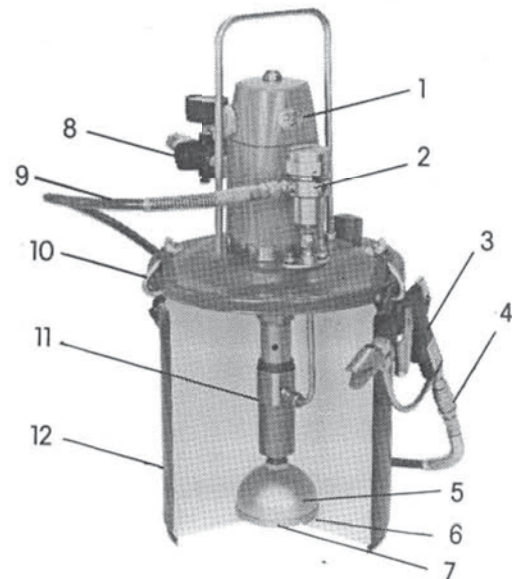

FIGURE 1
1. Pump comes partially assembled. Complete assembly is shown in figure 1 and 2.